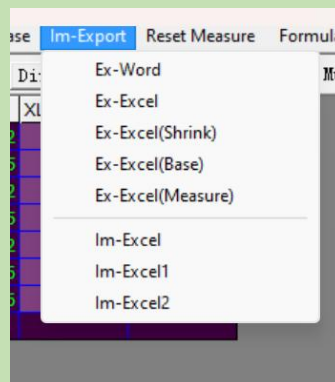

Figure 3-9
13.Import and export: You can edit the size chart in the table and then import or export it. (Figure 3-9)